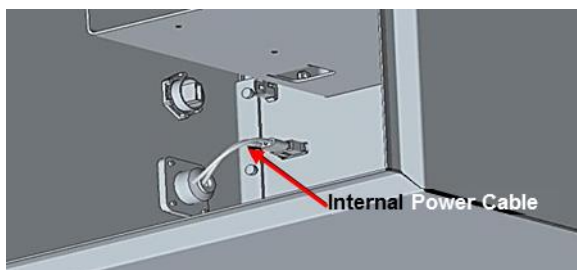

Figure 28: Internal Power Cable
2. Ensure the internal cable from the DC power connector is attached to the enclosure backplane as shown in Figure 28.